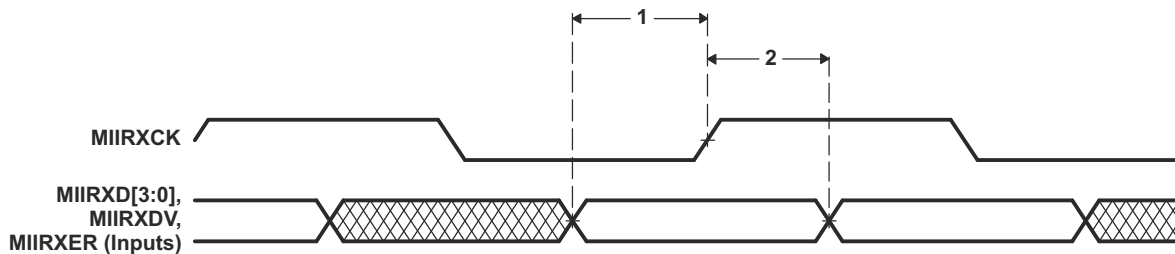

**图 7-38. 100/10Mb/s MII Transmit Timing**
**7.11.6.3.5 Switching Characteristics Over Recommended Operating Conditions (Unless Otherwise Noted) for EMAC MII Transmit (see 图 7-38)**